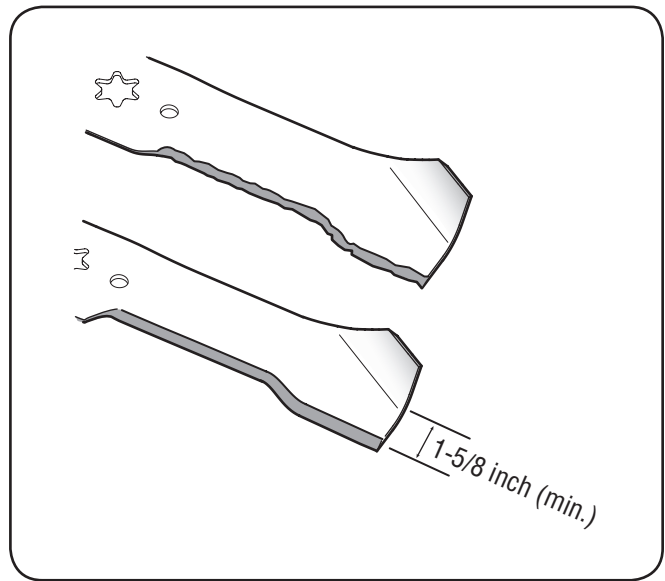

Figure 7-5
4. To properly sharpen the cutting blades, remove equal amounts of metal from both ends of the blades along the cutting edges, parallel to the trailing edge, at a 25°- to 30° angle. Always grind each cutting blade edge equally to maintain proper blade balance. See Fig. 7-5.